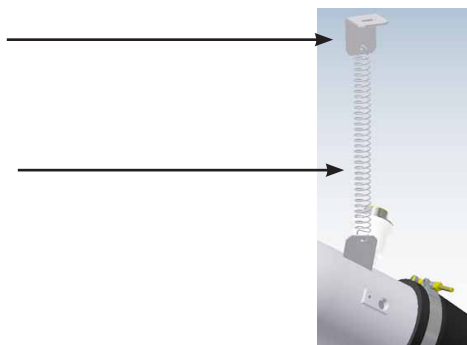

Figure 2 - Installed spring
- 1.5. Install the N78378 support on the cooler air intake hose's front bolt support. See Figures 2 and 4.